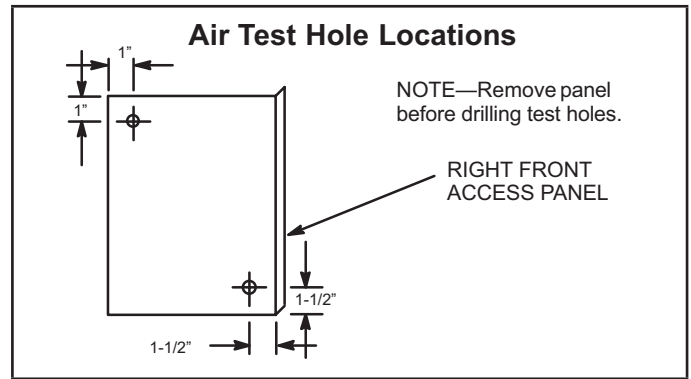

FIGURE 10. Air Test Hole Locations
- 2 - Drill two 5/16" (8 mm) air test holes in the right front access panel; hole locations are shown in figure 10. Replace the panel.